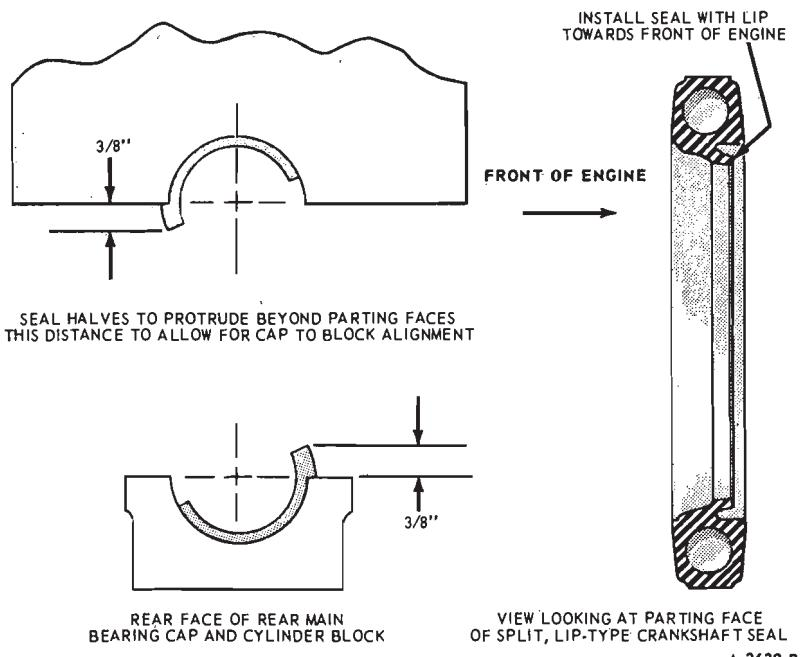

FIG. 34—Installing Crankshaft Rear Seal
undercut side of seal toward the FRONT of the engine (Fig. 34), by rotating it on the seal journal of the crankshaft until approximately $3/8$ inch protrudes below the parting surface.
8. Install the lower seal in the rear main bearing cap with undercut side of seal toward the FRONT of the engine (Fig. 34), allow the seal to protrude approximately $3/8$ inch above the parting surface to mate with the upper seal when the cap is installed.